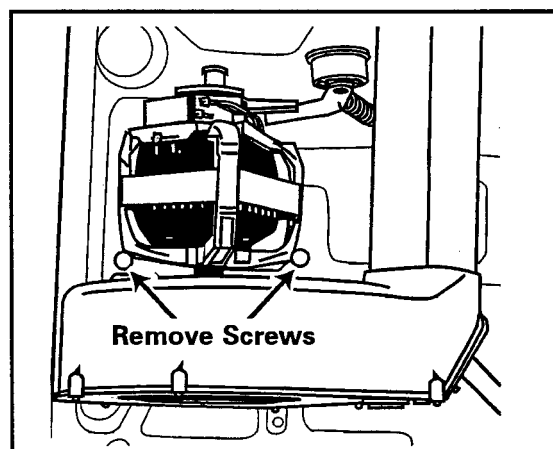

Figure 7-7
9. Remove two screws securing motor to base frame. An extension is required to reach the screws. Screws are located directly behind the blower housing, (*See Figure 7-7*).